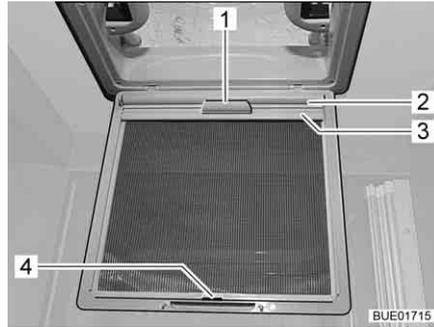

Fig. 79 Blind
- Using the handle (Fig. 79,1), pull out the blind (Fig. 79,2) and hook the retainer (Fig. 79,3) into the hook (Fig. 79,4) on the insect screen.
- Release the retainer (Fig. 79,3) from the hook (Fig. 79,4) and, using the handle (Fig. 79,1), slowly return the blind (Fig. 79,2).